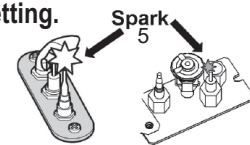

Fig 3
2. **SET ON/OFF SWITCH (1) TO "OFF" POSITION.**
- Wait five (5) minutes to clear out any gas, then smell for gas, including near the floor. If you smell gas, **STOP!** Follow "B" in the safety information above on this label. If you don't smell gas, go to the next step.
3. **AUTOMATIC IGNITION (fig. 1):** Locate the pilot (fig 3.) inside of firebox.
- ON/OFF switch (1) in ON position, MAN-knob (2) in ON position; set Flame Adjustment knob (3) to lowest setting (∩)
- When the pilot is lit, the Flame Adjustment knob (3) will automatically rotate to the highest setting.
4. **MANUAL IGNITION (fig. 2):** With the window off, locate pilot (fig. 3) inside firebox;
- ON/OFF switch (1) in ON position, MAN-knob (2) in MAN position;
- Set Flame Adjustment knob (3) to the lowest setting (∩);
- Push down the metallic core (4) with a pen or similar instrument; this will establish the pilot gas flow;
- Light gas at the pilot (5) with a match;
- Continue holding down metal core (4) for about 10 seconds; after release, pilot should remain lit;
- If the pilot will not stay lit after several tries, turn the gas control knob (3) to "OFF" (∩) and call your local service technician or gas supplier.
- Reinstall the window and set the MAN-knob (2) to "ON"; turn Flame Adjustment knob (3) up (∪) or down manually or use the up/down 'flame' buttons on the remote control handset to adjust the flame height.